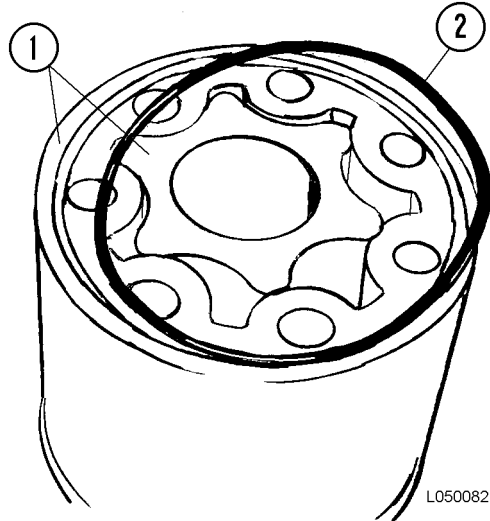

FIGURE 5-5. END COVER REMOVAL
4. Remove end cover (4) and O-ring (2, Figure 5-5).